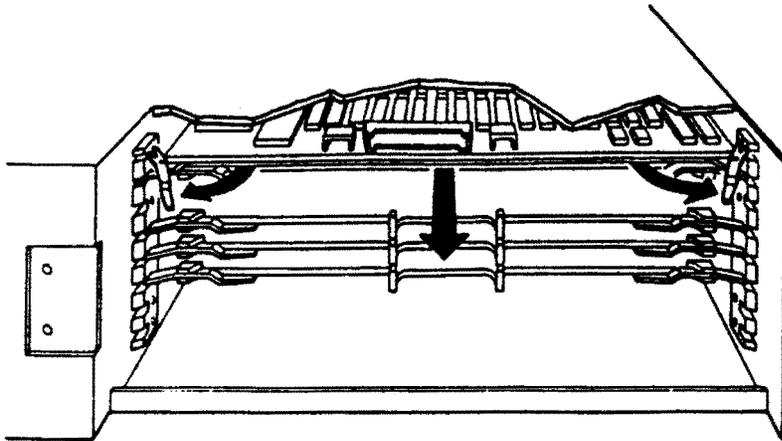

Figure 4-5: Module Removal
8. Pull the levers at each end of the module to release it, and carefully pull the module toward you (Figure 4-5).